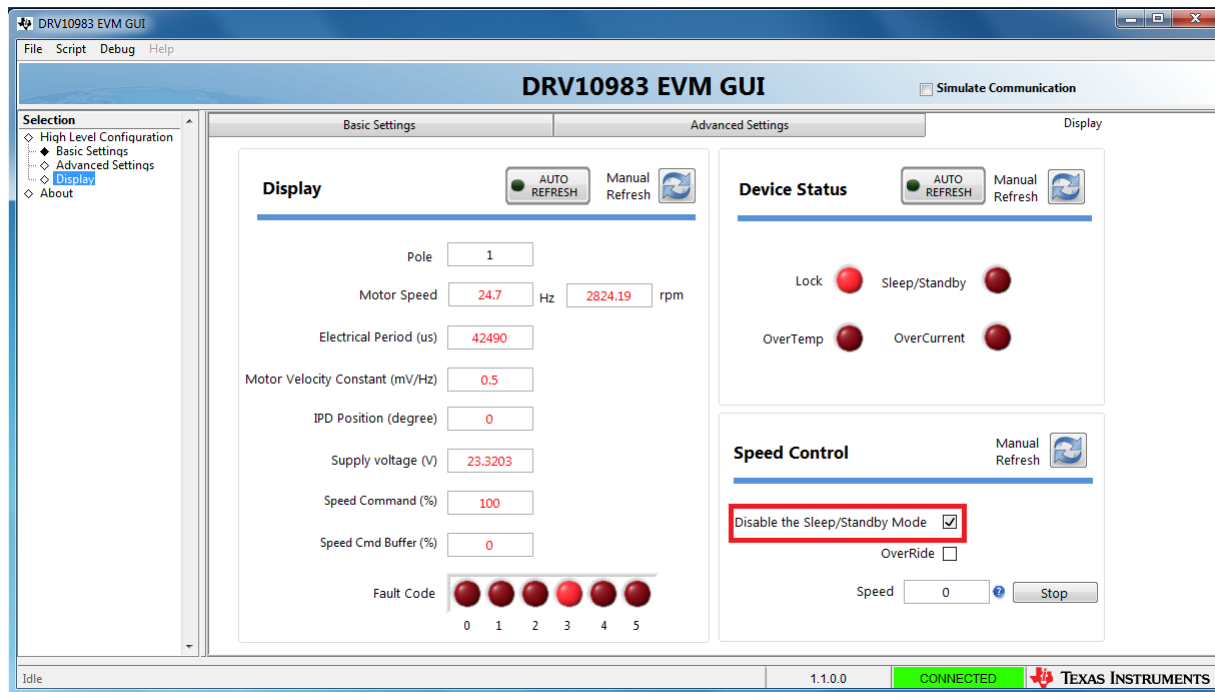

Figure 8. Disable Sleep Mode
9. In the Display tab, disable Sleep mode as shown in Figure 8